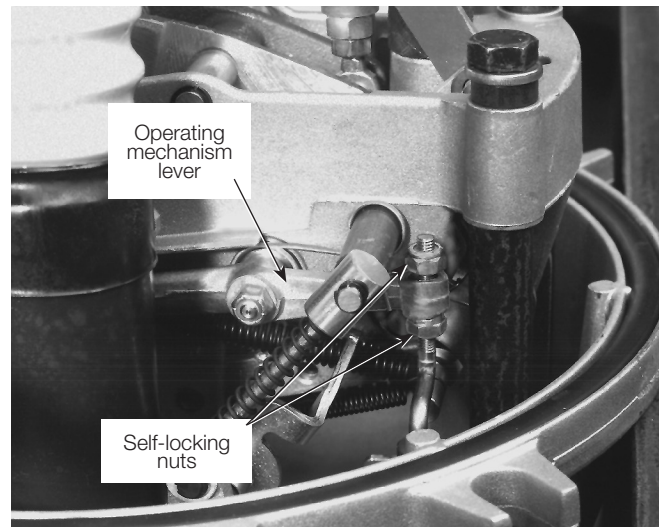

Figure 20. Adjusting lockout lever setting
- C. Adjust self-locking nuts (see Figure 20) as required to achieve correct tripping operation.